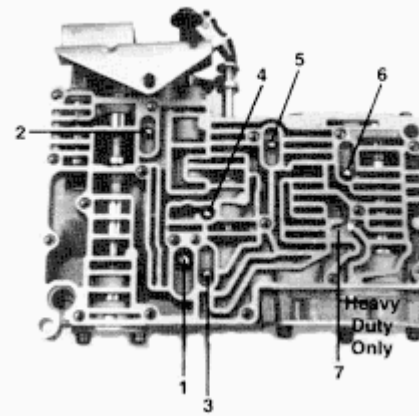

Figure 11
**Step 13** Lay the upper housing down and install the checkballs as follows: **(See Figure 11)**